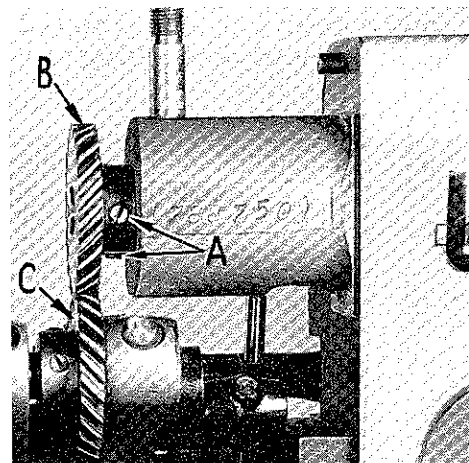

Fig. 4
Loosen screws (A, Fig. 4) in main shaft head driving gear (B) and
In timing, turn the handwheel slowly away from you and watch the movement of the plunger. You will note that on every second revolution of the handwheel the plunger is raised to its highest point. When the plunger is raised to its highest point and comes to a stop, the groove or slot in the main shaft will be on top. Maintain this position while timing the needle to the plunger, which is accomplished by turning gear (C, Fig. 4). Turn gear toward operator until the needle has raised to its highest point and is again moving toward the plunger on the right hand side of the guide. When the point of the needle is within approximately $3/16$ inch of